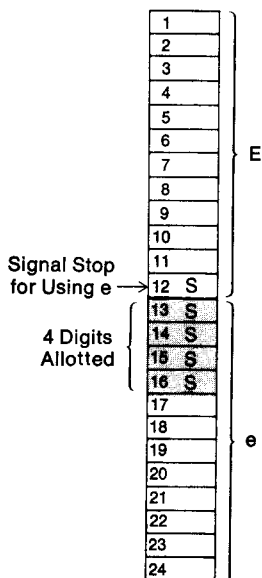

Fig. 1
- 2 To use the LOWER HALF of a register (f, e, d) in this manner there *must* be a 'signal stop' (an S) in the 12th position of the register concerned (see Fig. 1).